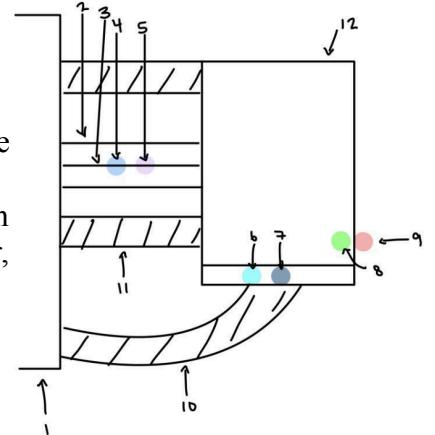

Figure 1
- 2.2 Figure 1
- 4.1 Figure 1
- 4.2 Figure 1
This Final Feature is located on the top left of the output which is shown in figure 1 and it is used to view the past graphs and specific gravity data taken by the product. All of the data stored will be sent to a cloud that can then reopen the data by clicking on the date of the data needed. After pressing the past data box, a drop down will appear with the most recent dates as well as a calendar that will show all dates that data has been stored on. After clicking on a set date, a page just like figure one will appear but with completed data and a completed graph.